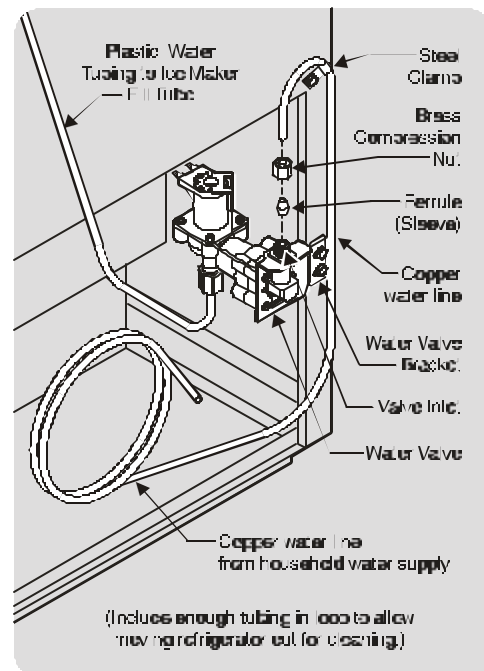

Figure A18
- A water supply line made of 1/4 inch (6.4 mm) OD, copper tubing. To determine the length of copper tubing needed, measure the distance from the ice maker inlet valve at the back of the refrigerator to your cold water pipe. Then add approximately 7 feet (2.1 meters), so the refrigerator can be moved out for cleaning. See Figure A18.
**NOTE:** Water line kit number 5303917950 is available at an additional cost. This kit contains 25 feet (7.6 meters) of 1/4" OD copper tubing, a saddle type shutoff valve (nonpiercing), (2) 1/4" brass compression nuts, (2) ferrules/sleeves, and instructions for installing a water supply line.
4. Slide brass compression nut, then ferrule (sleeve), onto water supply line, as shown in figure A18.
6. With steel clamp and screw, secure water supply line to rear panel of refrigerator at location shown in Figure A18.
7. Coil excess water supply line (about 2½ turns) behind refrigerator as shown in Figure A18 and arrange coils so they do not vibrate or wear against any other surface.